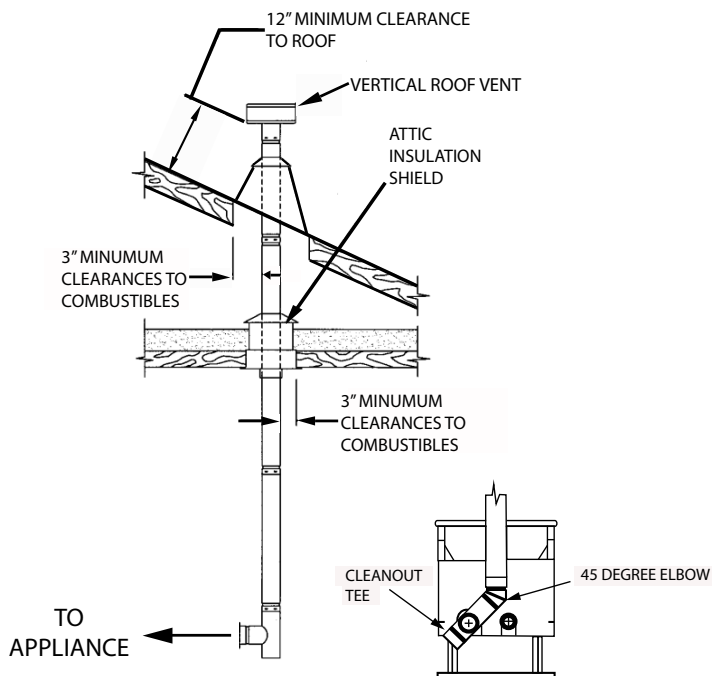

FIGURE 10
C. VERTICALLY WITH NEW CHIMNEY SYSTEM (Refer to Figure 10)